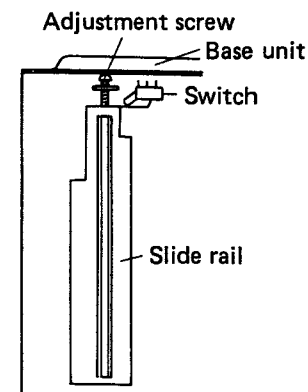

Fig. 2-6 Loading in operation
2. When the slide base is pulled back into the normal inserted position, a storage switch is pressed (delay time of about 130msec.) and the motor stopped to complete the loading in operation. In actual practice, however, the slide rail is halted when it strikes an adjustment screw before the motor is stopped (see Fig. 2-6).